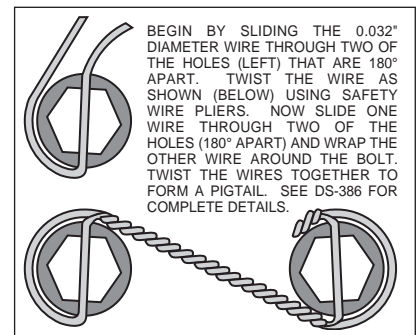

Figure 7. Safety Wire Diagram
- The rotor (3) has two sides. A flat side and an inset side. Bolt hat (2) to flat side of rotor (3) using bolts (5). Using an alternating sequence, apply red *Loctite*® 271 to the threads and torque bolts to 25 ft-lb. For an added measure of security, the bolts may be safety wired using standard 0.032 inch diameter stainless steel safety wire as shown in Figure 7. Refer to Wilwood's data sheet DS-386 for complete safety wire installation instructions.
- Align the correct hole pattern in the hat (2) with the stud pattern on the axle flange.